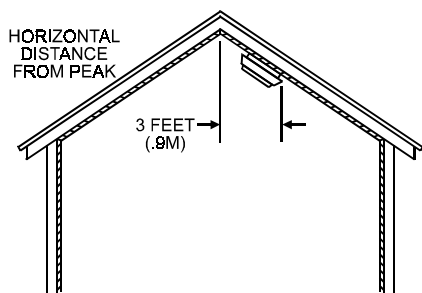

Figure 5: Recommended Smoke Alarm Mounting Locations in Rooms with Sloped, Gabled or Peaked Ceiling
- K. In rooms with sloped, peaked, or gabled ceilings, mount detectors 0.9 m (3 ft) measured horizontally from the highest point of the ceiling (Fig. 5).